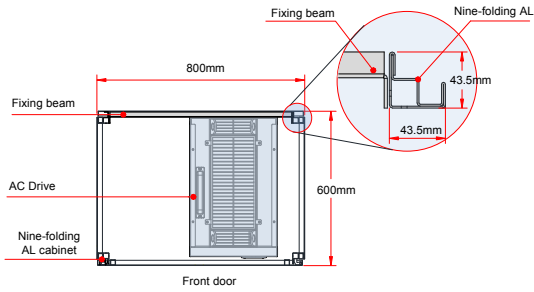

Figure 3-15 Top view of MD500ET200G(-L) to MD500ET450G(-L)
1	Install the fixing beam in the nine-folding AL cabinet, as shown in Figure 3-15.
- A Nine-folding AL cabinet (PS cabinet) is recommended for installation of the drive. The cross section of the nine-folding AL cabinet is shown in Figure 3-15.